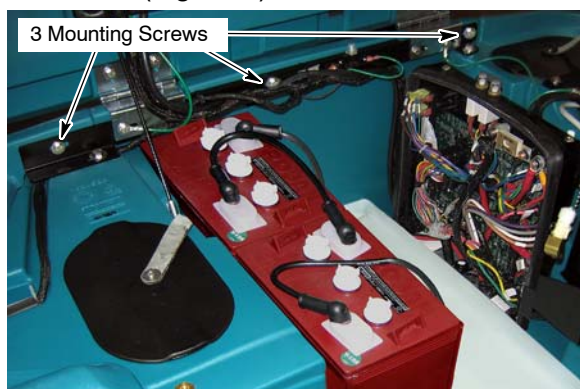

Fig. 5
- a. Remove the 3 mounting screws as shown (Figure 5).